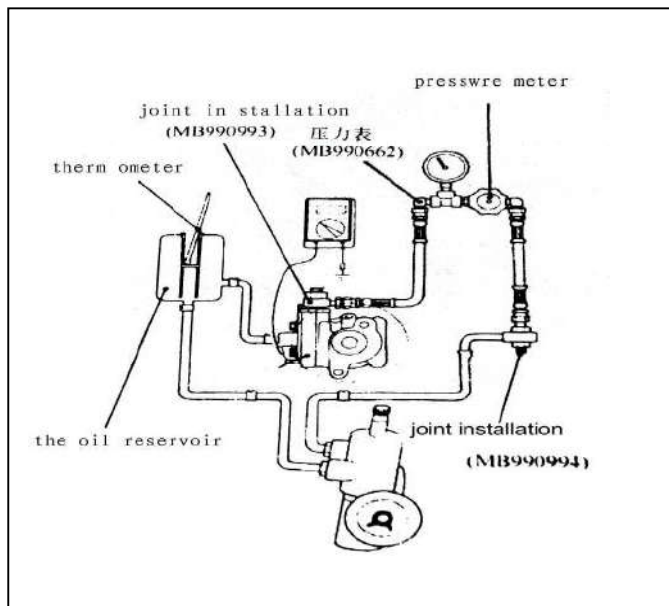

Fig 17-10
11. POWER STEERING OIL PRESSURE SWITCH CHECK (See Fig 17-10)